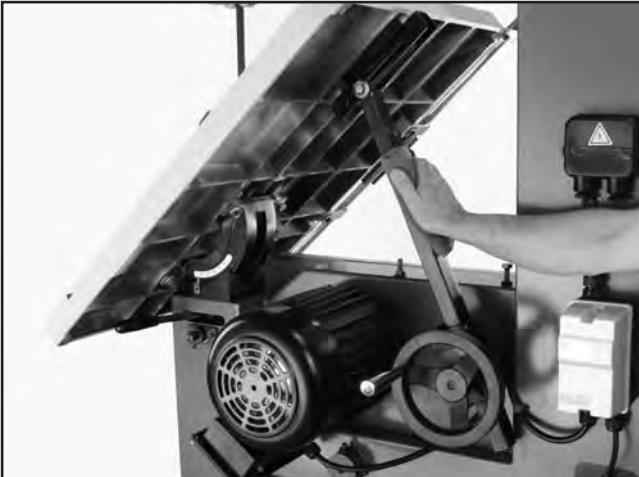

Figure 47. Table tilt rack and pinion assembly.
3. Move the table up to its maximum 45° angle and wipe (Figure 47) off all existing grease and sawdust buildup from the rack.